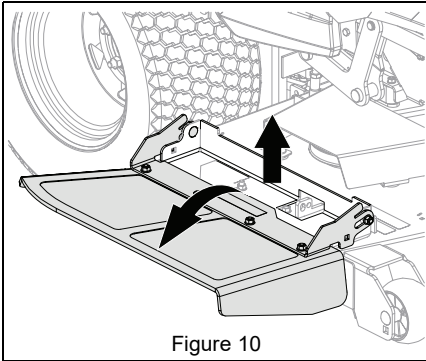

Figure 10
21. Lift discharge chute up slightly and rotate to operating position. See Figure 10.